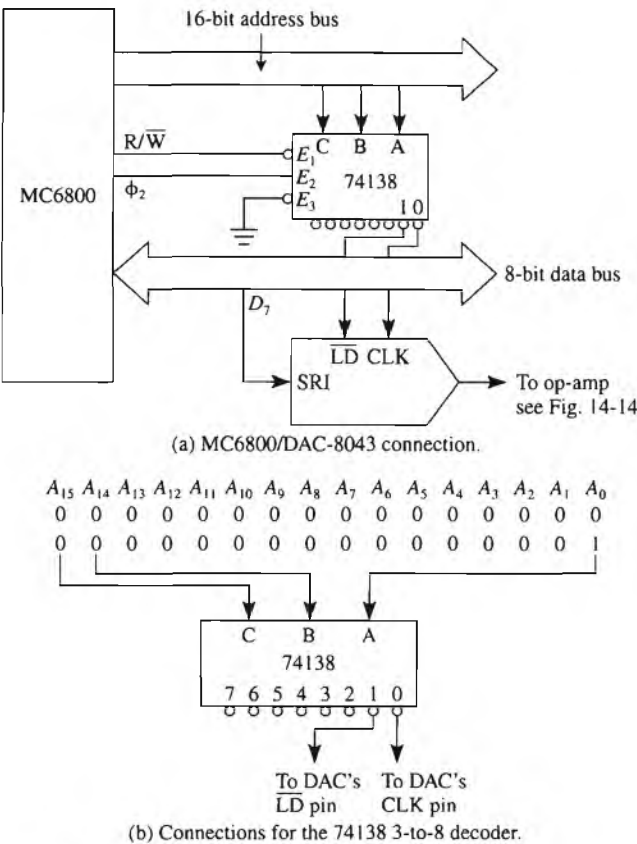

FIGURE 14-15 Interfacing the DAC-8043 serial D/A converter to the MC6800 microprocessor.
Figure 14-15(a) shows a DAC-8043 interfaced to an MC6800 microprocessor. For this configuration the DAC-8043 is wired so that the input shift register is at address 0000_{hex}
and the data is transferred to the DAC register when address 0001_{hex} is sent by the μP . A more detailed schematic of the decoder chip (74138) and the microprocessor's address lines are shown in Fig. 14-15(b).
The 74138 IC in Fig. 14-15 could be used to interface three more serial DACs to the microprocessor.
- 14-13. If the 74138 decoder chip shown in Fig. 14-15 is used to interface three more serial DACs, at what address would their registers be located?